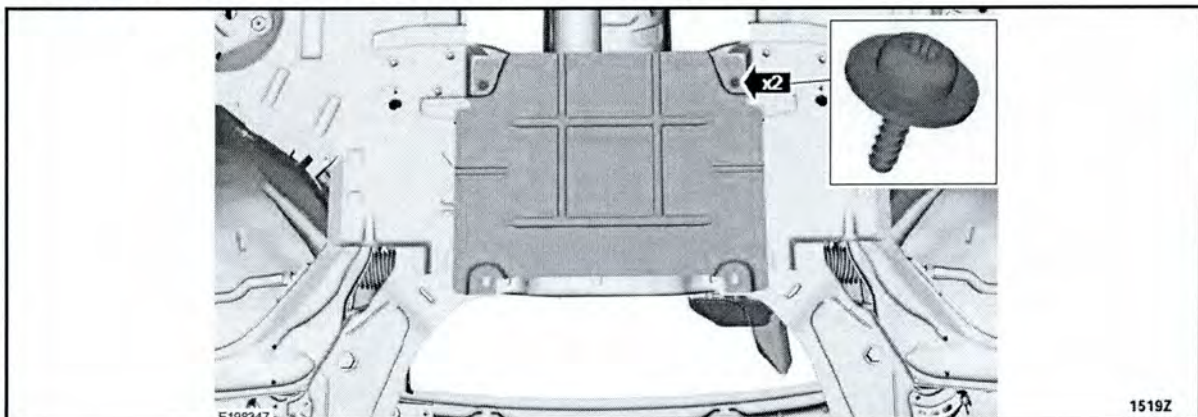

FIGURE 4
2. If equipped, remove the center underbody shield. See Figure 4.
2. *If equipped, install the center underbody shield. See Figure 4.*